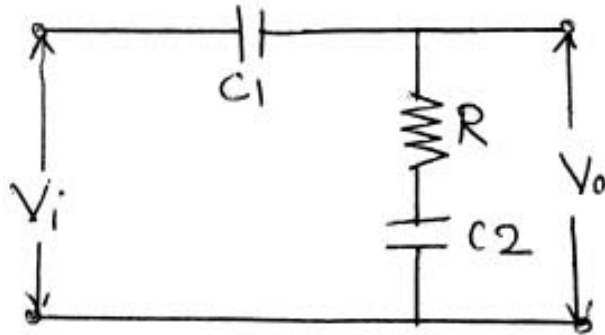

Fig. 7(b)
- b) Find the transfer function of the network as shown in Fig. 7(b). 8